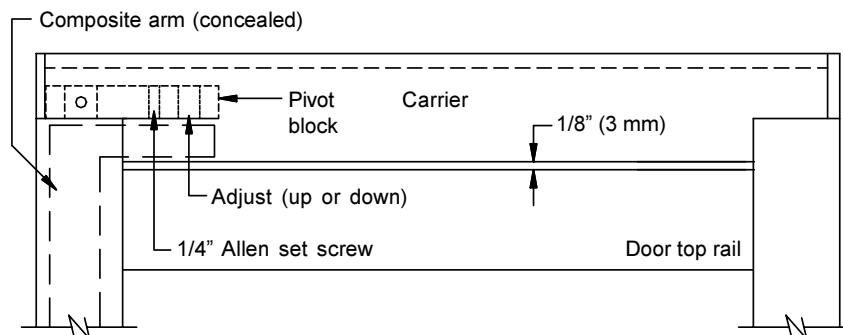

Figure 23. Door/Carrier Adjustment
7. Attach the belt bracket to the roller assembly on the lock stile of the door using two (2) M6 serrated flange screws.
8. Next, break open the door and panel. Slowly close the door and check the clearance between the top of the door and the bottom of the carrier. If the clearance is not 1/8" (3 mm), loosen the 1/4" (6 mm) Allen head set screw at the bottom of the carrier. Adjust the clearances as required by turning the large Allen head bolt. After setting the correct clearance, retighten the 1/4" (6 mm) Allen head set screw (**Figure 23**).